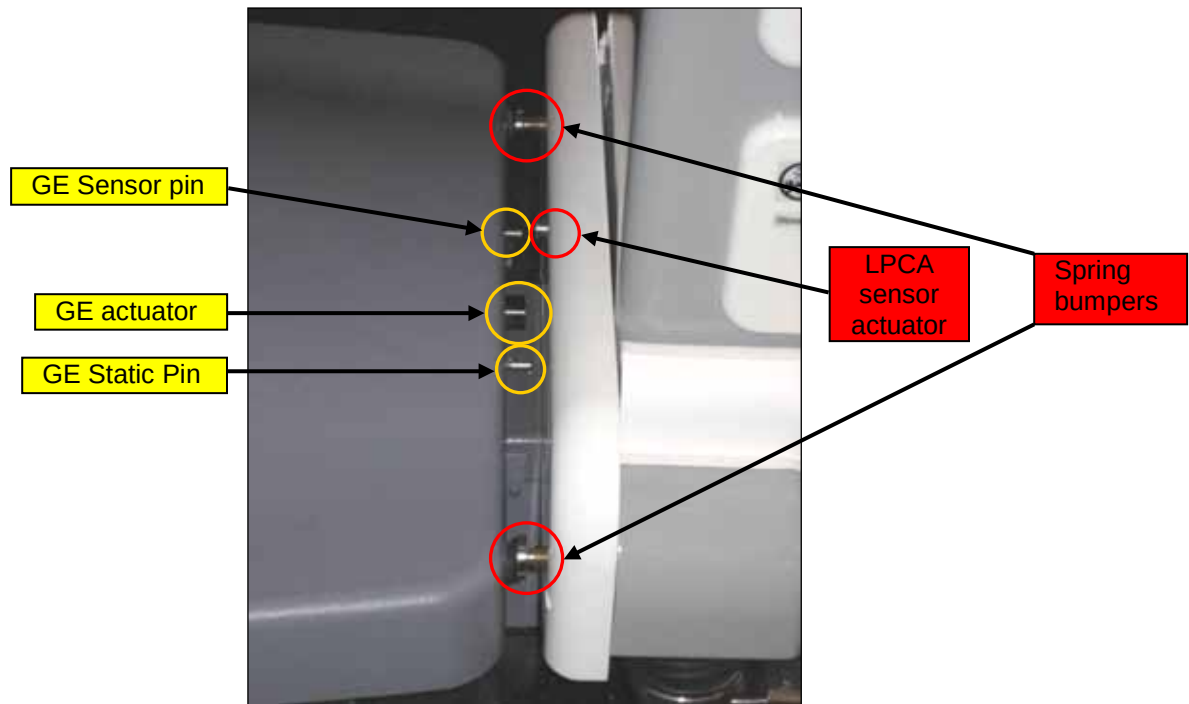

Figure 19
11. Use your finger to depress the MRI's docking pins (circled in Figure 19) until a slight click is heard and hold it while pressing the scanner control button to advance the LPCA into the bore of the scanner until it stops.
12. Align the Vanguard to the scanner carefully by rolling it up to the centre of the scanner, ensuring that the bumper does not contact the static pin protruding from the dock (Figure 19). The static pin should be aligned with the corresponding clearance pocket in the bumper. Measure the height difference of the